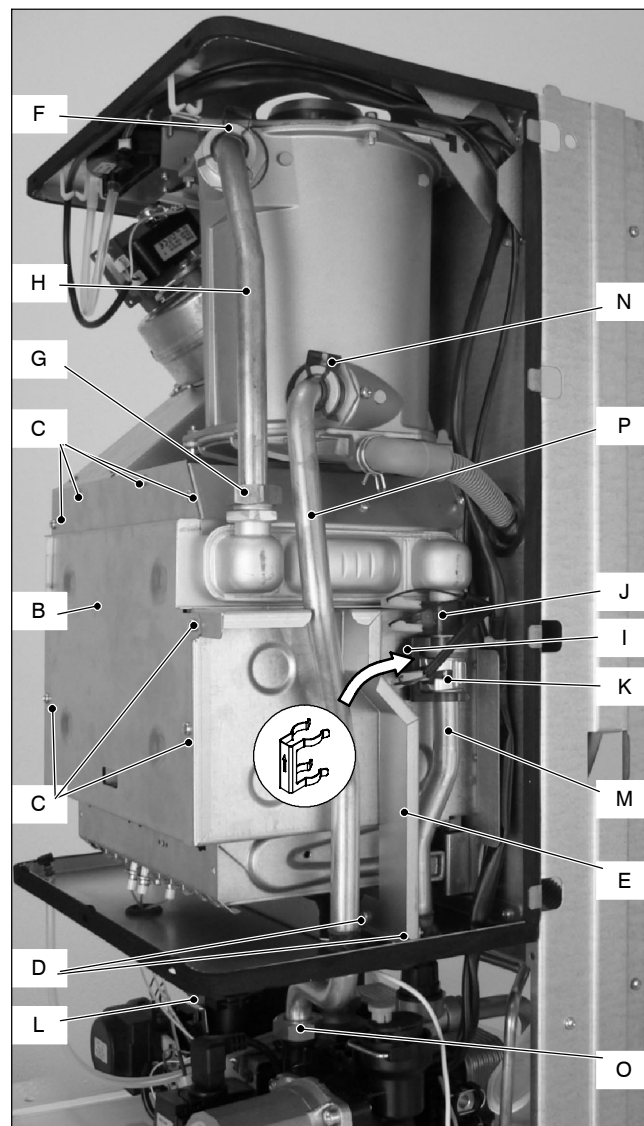

Fig. 3
- 3 Remove the combustion chamber lid *B* by unscrewing the screws *C* (Fig. 3).
- 13 Reassemble the boiler carrying out the removal operations in reverse order. **Fit the clip *I* with the arrow pointing upwards as illustrated in Fig. 3.**